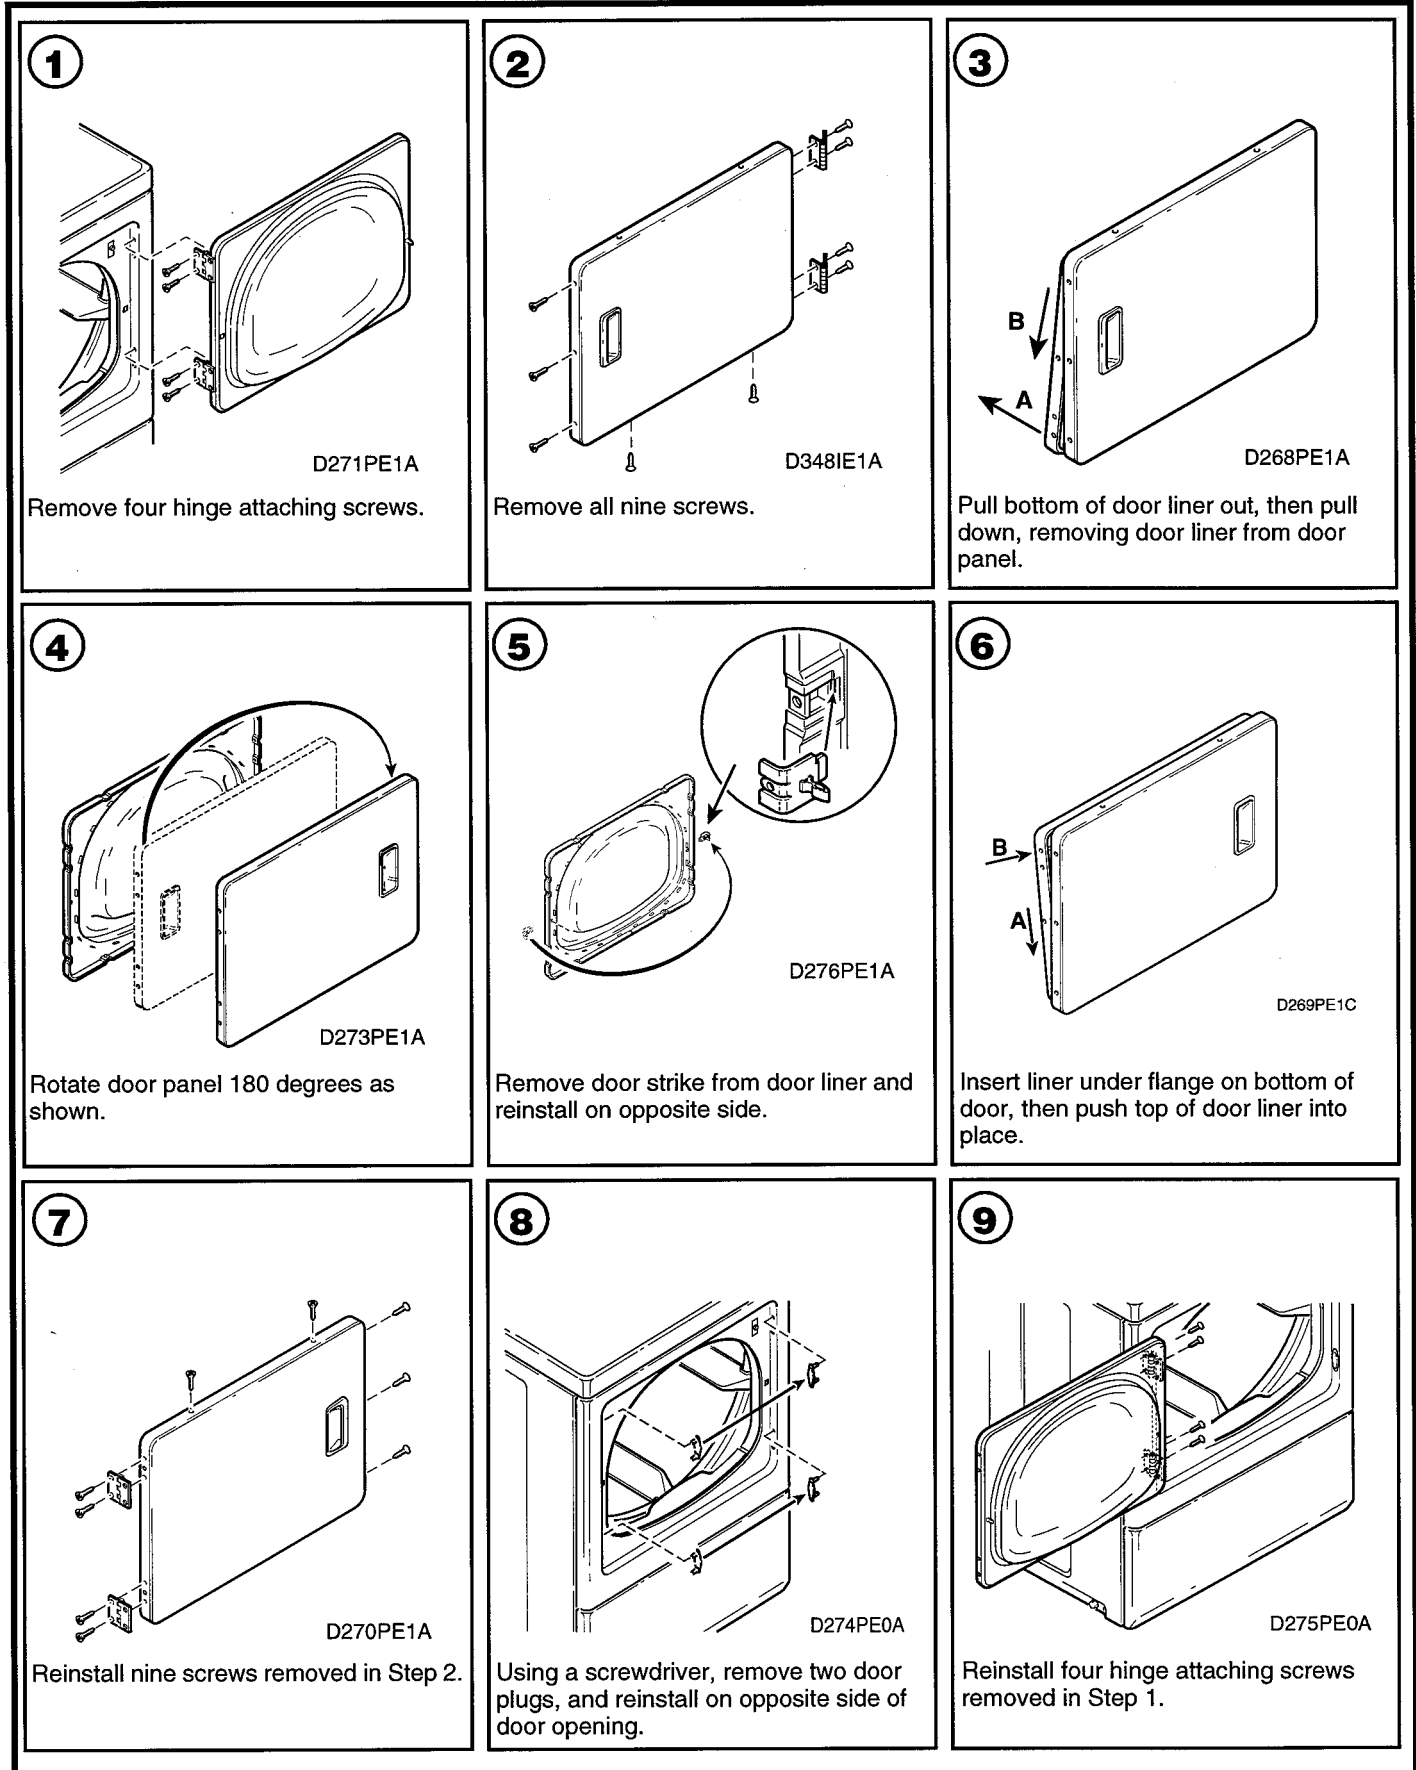

Figure 5-4
- b. Carefully remove door pull. See figure 5-4.
- c. Remove remaining screws around the door perimeter and separate panels. See figure 5-4.